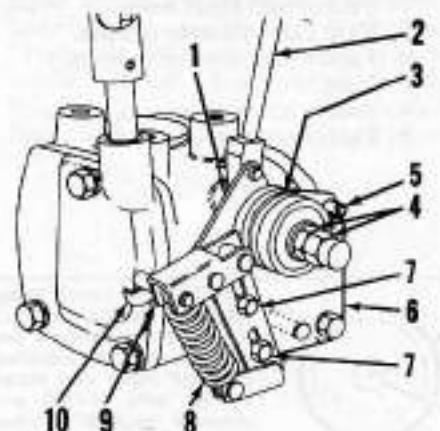
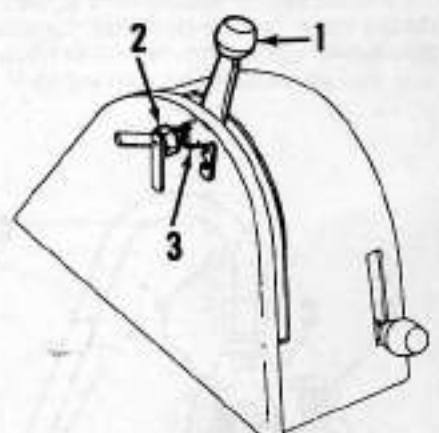

Fig. 229—View of linkage control lever and related parts in position to adjust select stop.
Fig. 231—View showing quadrant lever and stop.
**406. CONTROL LEVER FRICTION DISC ADJUSTMENT.** If quadrant lever moves from set position, tighten nuts (4—Fig. 229) to tighten friction disc (3) pressure. Nuts should never be so tight that quadrant lever fails to move from **SELECT** position when released.
**407. SPRING CARRIER ADJUSTMENT.** Start engine and run at 1800 rpm. Select **POSITION** on selector dial and hold quadrant lever in **SELECT** position until linkage is at full height and pump relief valve just closes but lift arms do not lower. Hold quadrant lever in this position and loosen the two bolts (7—Fig. 229) and move spring carrier (9) until it contacts plate (10). Tighten bolts (7) and stop engine.
409. **SELECT STOP ADJUSTMENT.** Select **POSITION** on selector dial, loosen nut (2 - Fig. 231) and move stop assembly (3) to bottom of slot. Move quadrant lever (1) fully rearward (**SELECT**) until pin (5 - Fig. 229) contacts plate (6). Move stop (3 - Fig. 231) until it just contacts quadrant lever (1). Tighten nut (2) with stop in this position. Release quadrant lever.